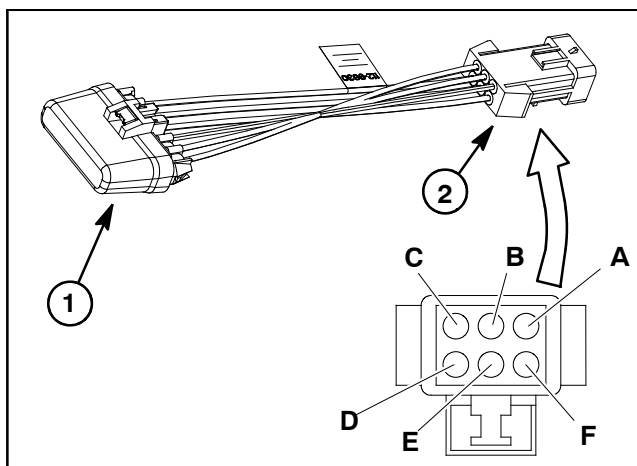

Figure 70
6. Using a multimeter, measure resistances between module connector terminals as follows (Fig. 70):